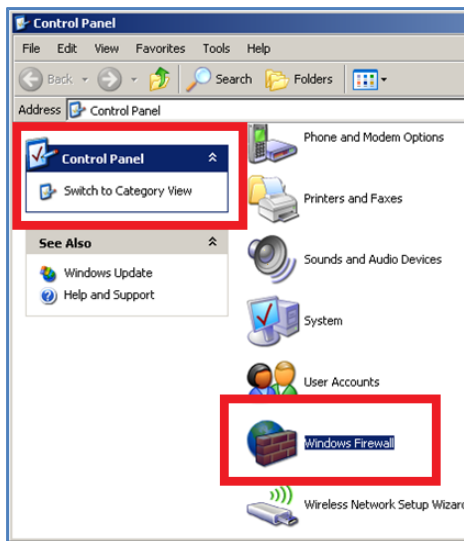

Figure 8.1.1-2: Accessing the **Windows Firewall** button.
3. The **Windows Firewall** window (Figure 8.1.1-3) will appear. Make sure the **On** option is selected and the **Don't allow exceptions** checkbox is not checked. Then, click the **Exceptions** tab.